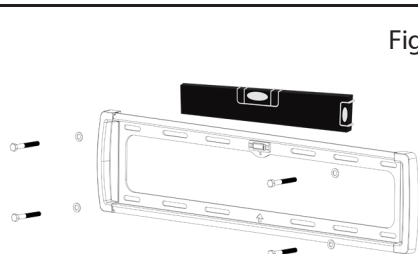

Fig. 2
2. Place the wall plate against the wall with the arrow pointing up and level the wall plate with a single level (see Fig. 2).
5. Place the wall plate back against the wall and attach it using the lag bolts (A) and lag bolt washers (B) provided (see Fig.2).
5. Place the wall plate back against the wall. Ensure the proper orientation with the arrow on the plate facing up. Attach it using the lag bolts (A) and lag bolt washers (B) provided (see Fig.2). **Do not overtighten these bolts and do not release the wall plate until both bolts are in place.** Ensure that the wall plate remains level after tightening the bolts.